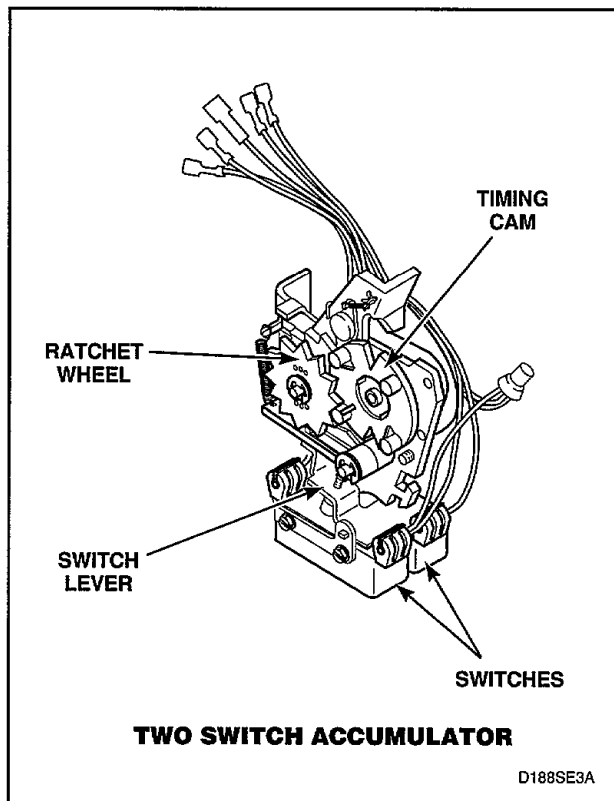

Figure 58
50. ACCUMULATOR AND TIMING MOTOR (Metered Models - Figure 58)